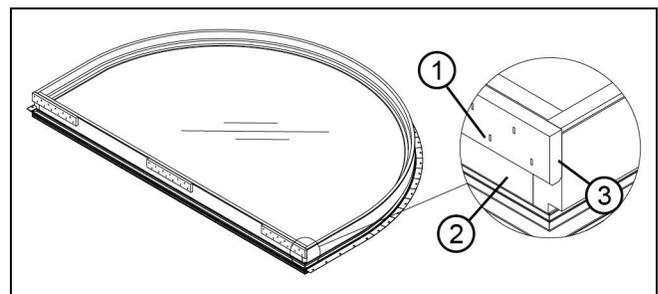

Figure 38
1. Lay frames on a flat surface in the desired mulling configuration (interior side up). Remove nailing fin from head jamb of inswing door. Remove shipping blocks from sill of ELALDGRT. Attach additional mull filler blocks to the ELALDGRT 4 9/16" sill as needed, flush to the interior, with 3/16" x 1" staples. See Figure 38.